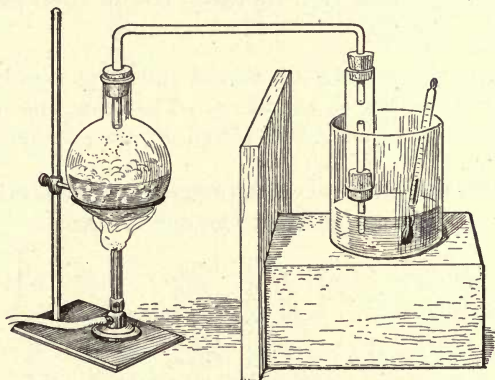

FIG. 119. — A Steam Trap.
**Experiment 42.** — Pass steam through a steam trap (Figure 119) into a vessel containing 300 grams of water at about  $15^{\circ}$ ? Take